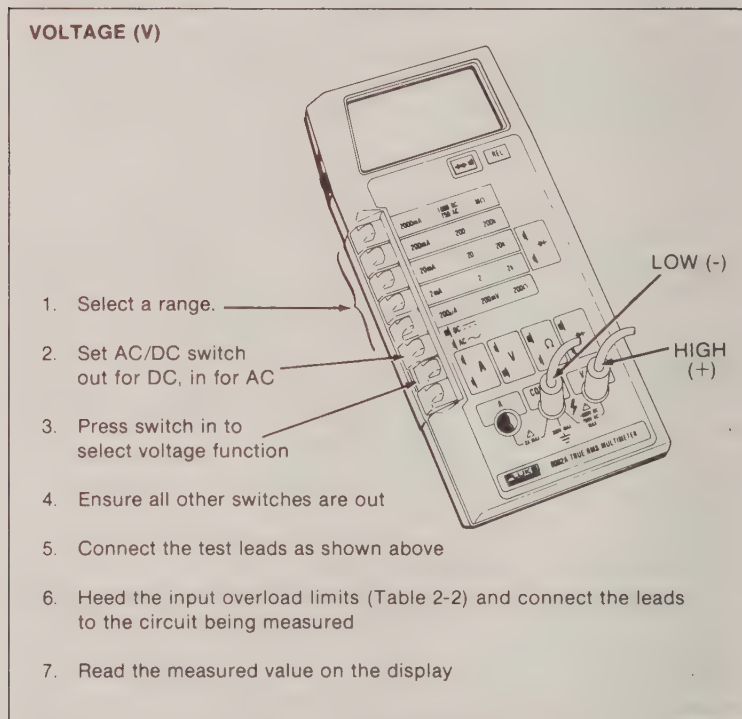

**Figure 2-6. Voltage Operation**
Selection of the ac or dc voltage (V) functions is described in Figure 2-6. The 8062A offers five ac and five dc voltage ranges: 200 mV, 2V, 20V, 200V, and 750V ac/1000V dc. All ranges present a 10 M $\Omega$  input impedance, which is shunted by <100 pF.